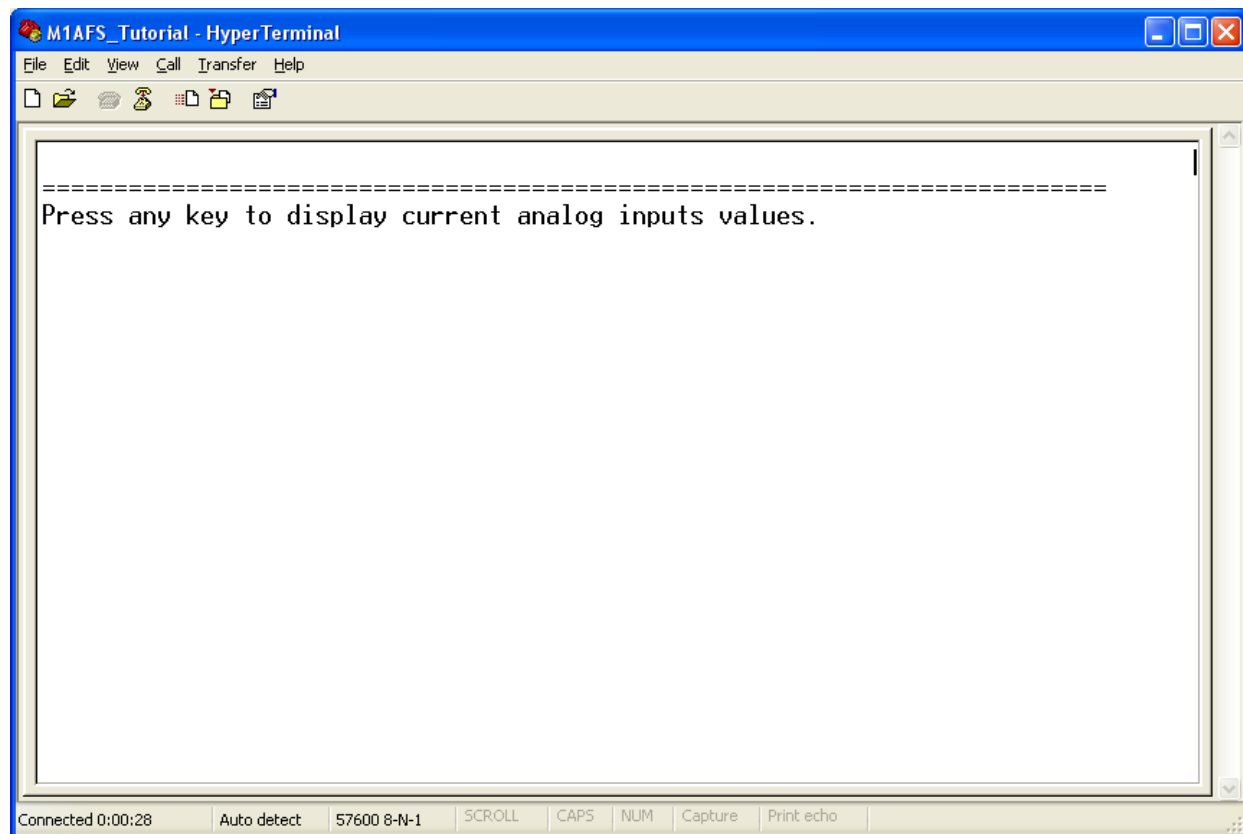

Figure 5-7 • HyperTerminal Window
7. Go to the HyperTerminal window. You should see the message shown in Figure 5-7 in the HyperTerminal window.